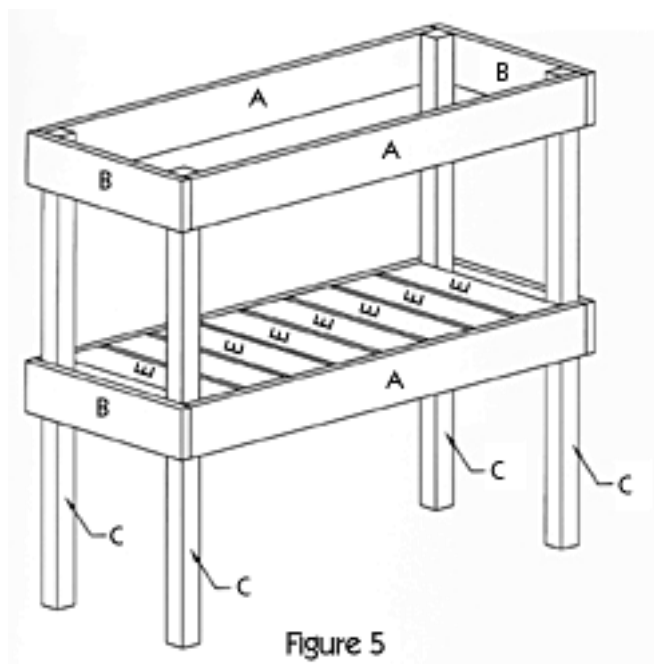

Figure 5
Place the eight Shelf Boards (E) between the Long Sides (A) over the Support Trims (D), as shown in figure 5. Space the Shelf Boards (E) approximately 1/2" apart. Apply glue to the meeting surfaces, and nail through the Shelf Boards (E) into the Support Trims (D), using two 1-1/4" finish nails on each joint.